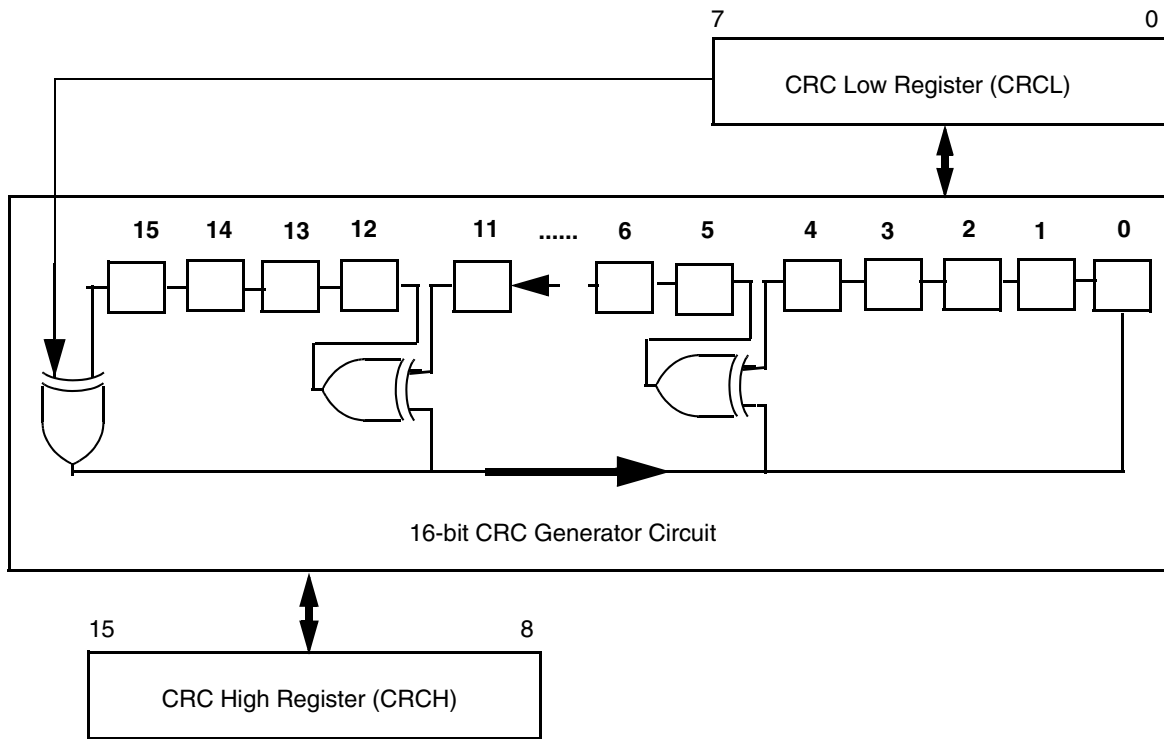

Figure 16-2. Cyclic Redundancy Check (CRC) Module Block Diagram
Figure 16-2 provides a block diagram of the CRC module
- ITU-T V.41 implements the same circuit shown in Figure 16-2, but it recommends a SEED = 0x0000.
- ITU-T T.30 and ITU-T X.25 implement the same circuit shown in Figure 16-2, but they recommend the final CRC result to be negated (one-complement operation). Also, they recommend a SEED = 0xFFFF.